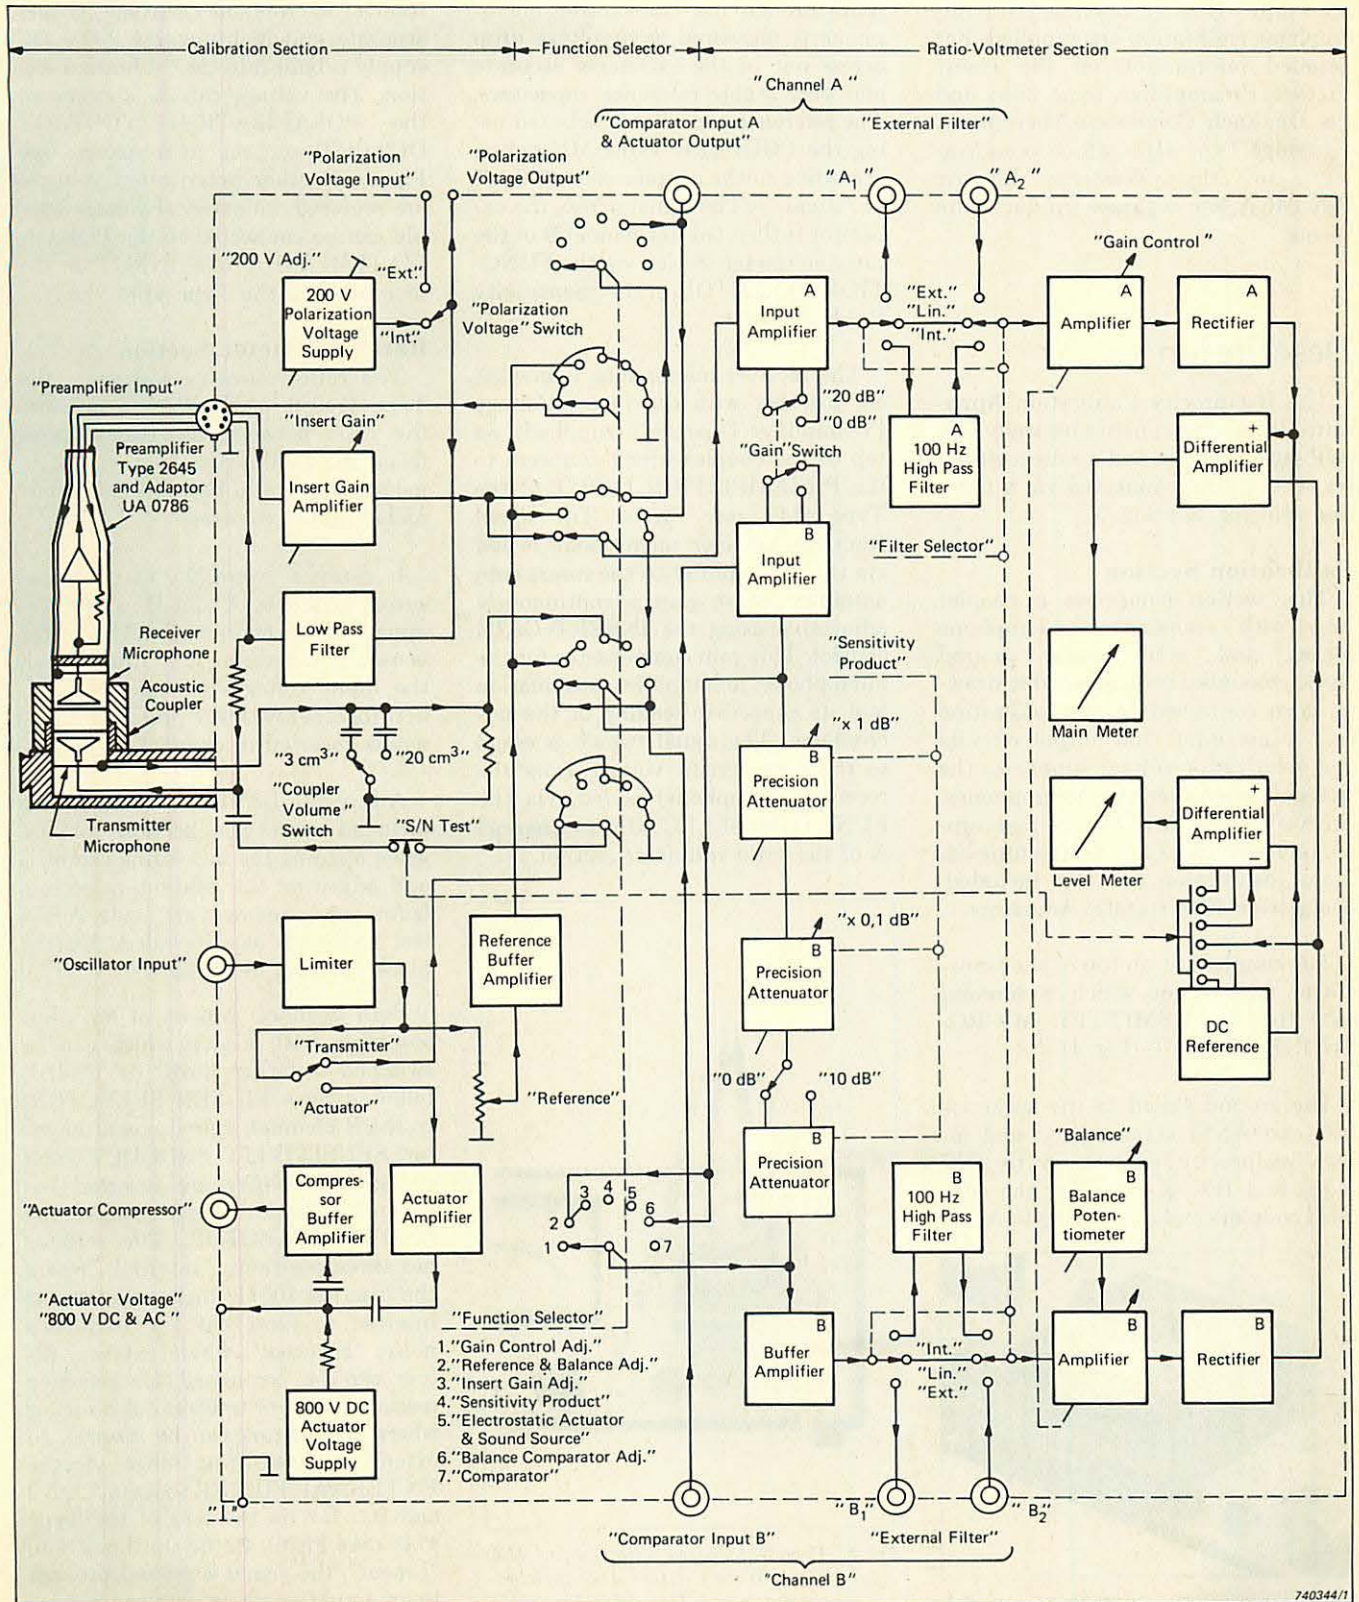

Fig. 3. Simplified block diagram of the Reciprocity Calibration Apparatus Type 4143
The Reciprocity Calibration Apparatus Type 4143 consists basically of a calibration section and a ratio-voltmeter section interconnected via a function selector. See Fig. 3.
A separate LEVEL METER is also included with this section for use when aligning the measuring channels and adjusting the calibration section before measurements are made. A S/N test facility is also included. See the block diagram in Fig. 3.
2. As zero indicator, where the Type 4143 indicates equality of two signals. The signals are applied to the Type 4143 via the A and B COMPARATOR inputs, or the EXTERNAL FILTER inputs A₂ and B₂. See Figs. 3 and 6.